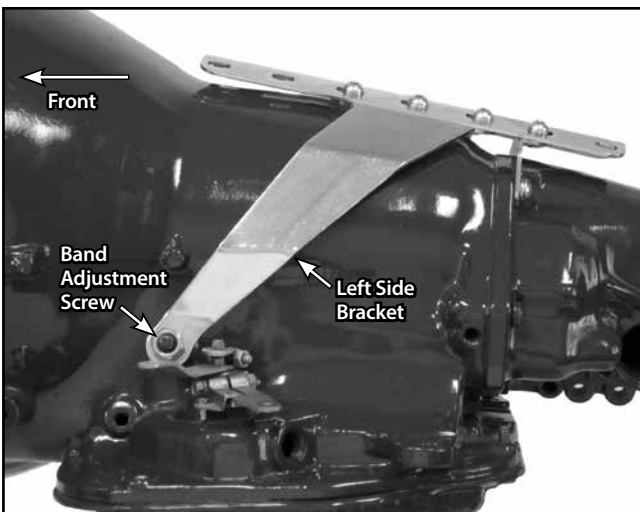
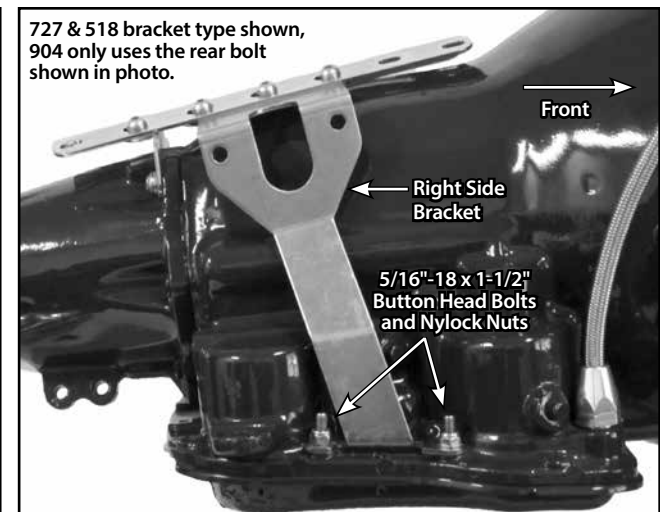

Fig. 3
Fig. 4
Step 6: Install the mounting bracket assembly onto the transmission by first placing the left side bracket over the band adjusting screw. Then, position the right side bracket above the bolt hole(s) where the pan bolt(s) were removed. Install the original lock nut back onto the band adjustment screw, but do not tighten. **Again, be sure that you do not change the adjustment.** **Fig. 3** Install 5/16"-18 x 1-1/2" button head bolts where the pan bolt (or bolts) were removed, and install matching lock nut(s) on the bolt (or bolts) to secure the right side bracket. **Fig. 4**